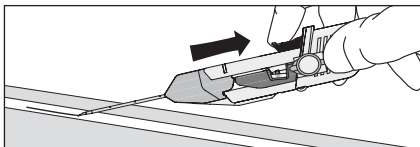

Figure 7
- Stabilize position of needle/handle and carefully advance guidewire into vessel by pulling guidewire slider back into handle (refer to Figure 7).